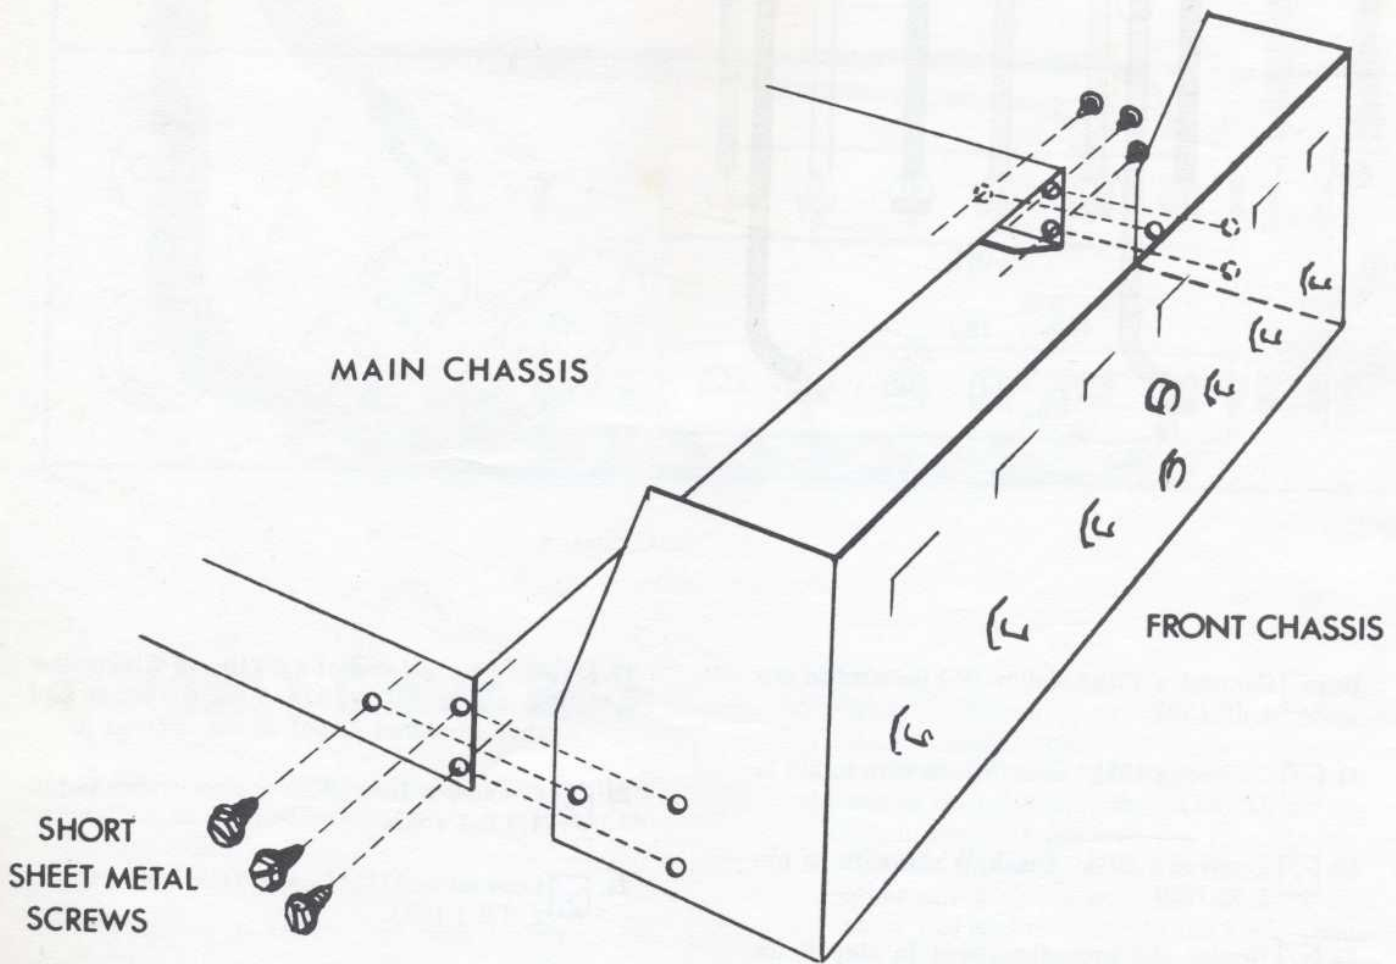

FIGURE 7
2.  Assemble the front to the main as shown in (Figure 7). Use six of the short  $\frac{1}{4}$ " sheet metal screws to fasten the sections together. Use a fairly good-sized screwdriver and don't be afraid to push down hard on the screws to get them started.